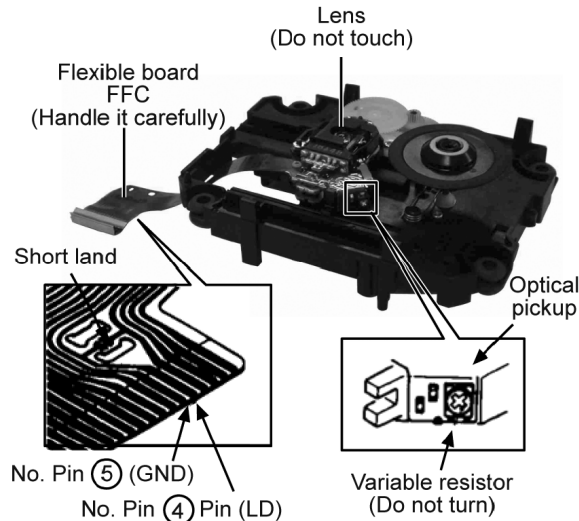

Fig 3.1
2. Short-circuit the flexible cable of optical pickup remove from the circuit board using a short-circuit pin or clip in order to prevent laser diode from electrostatic destruction (Refer to Fig. 3.1 and Fig. 3.2)
3. Do not handle flexible cables forcibly as this may cause snapping. Handle the parts carefully (Refer to Fig. 3.1)
4. A new optical pickup is equipped with an anti-static flexible cable. After replacing and connecting to the flexible board, cut the anti-static flexible cable. (Refer to Fig. 3.1)